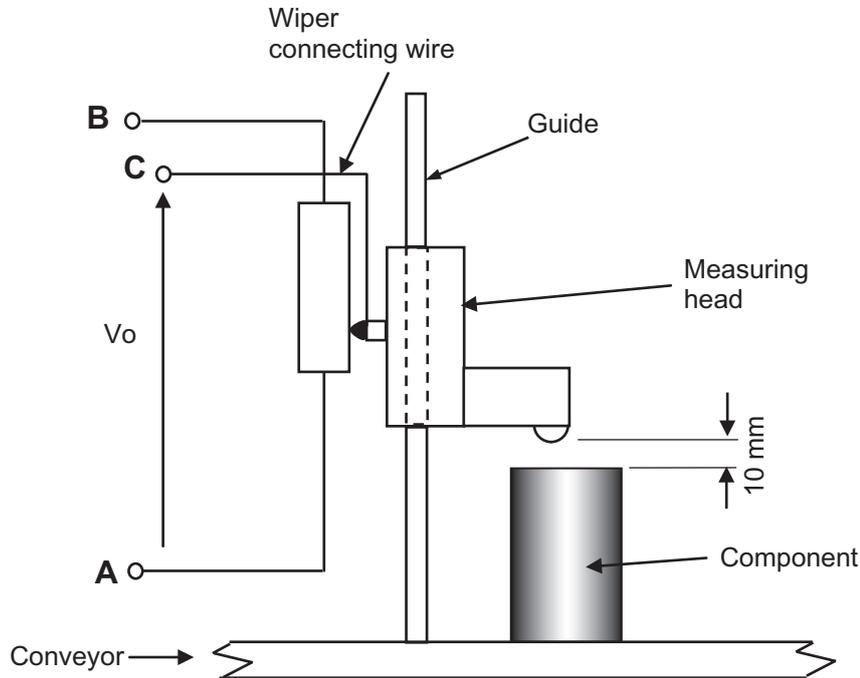

Fig. 2(b)
- (i) Explain how the arrangement shown in **Fig. 2(b)** could be used as the basis of a system to measure the distance the moving point of the measuring head has travelled from terminal **A**. [3]